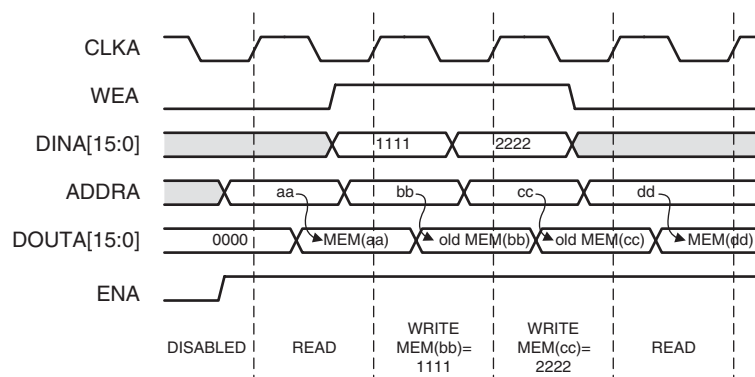

Figure 9: Read First Mode Example
- **Read First Mode:** In READ\_FIRST mode, data previously stored at the write address appears on the data output, while the input data is being stored in memory. This read-before-write behavior is illustrated in Figure 9.